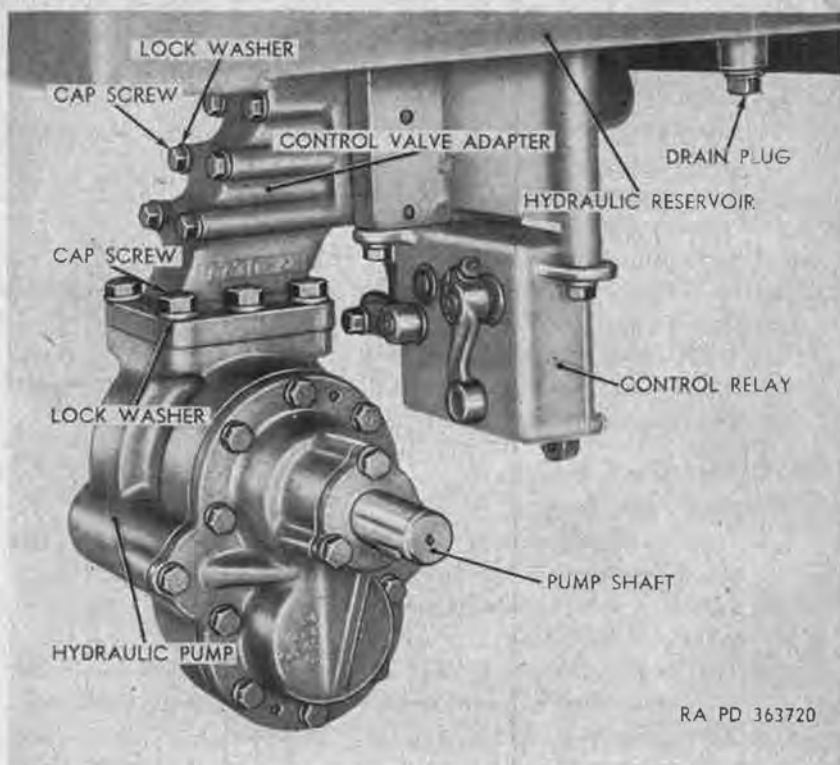

Figure 322. Right front view of hydraulic hoist pump mounting M51.
- (4) *Hydraulic pump.* The gear-type hydraulic pump (fig. 322), which is connected by a propeller shaft to the transmission-mounted power-take-off (par. 208), is bolted to the control valve assembly ((5) below) by an adapter.